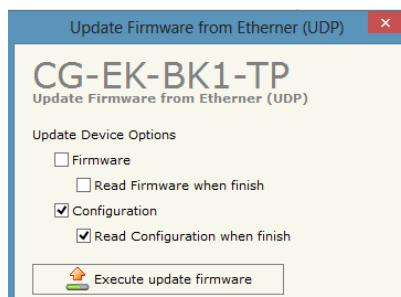

Figure 13 - Download options form
- Select the desired options (see Figure 13 – Download options form): firmware update, configuration update or both